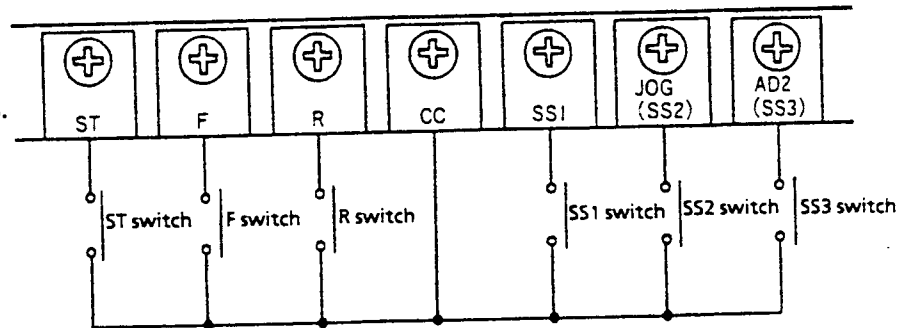

Figure 3.23 Terminal connections with switches for multispeed controls
- 1) Connect switches SS1, SS2, and SS3 across terminals SS1-CC, SS2-CC, and SS3-CC of the inverter's control circuit terminal block, as shown in Figure 3.23.